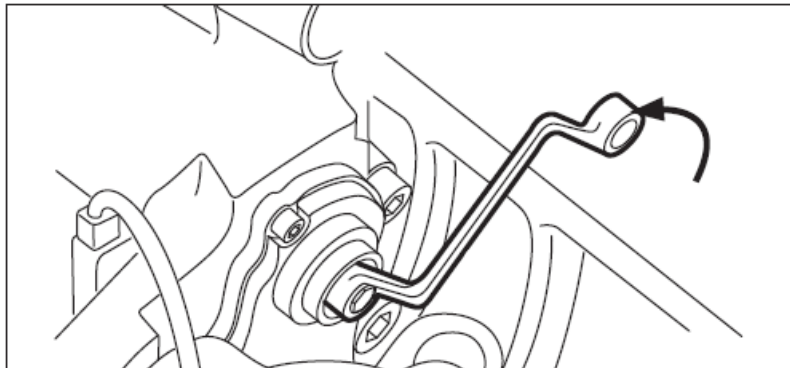

Figure 17: Counterclockwise Rotation
25. Using the same tool, turn the sear adapter counterclockwise and listen for the sound of 3 clicks as the mechanism backs-off (increases) the running clearance. See **Figure 17**.